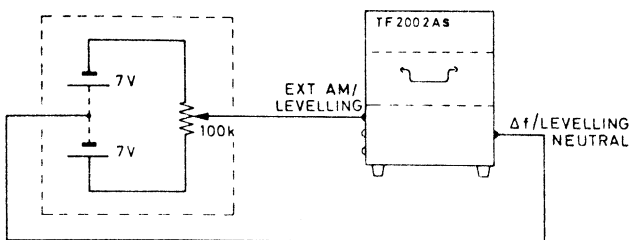

Fig. 2.6 External balanced drive source
- 3) By applying a two-terminal floating, direct or alternating potential between EXT A. M. LEVELLING terminal and the  $\Delta f$ /LEVELLING NEUTRAL terminal at the rear of the instrument. Fig. 2.6 shows a balanced direct source but an